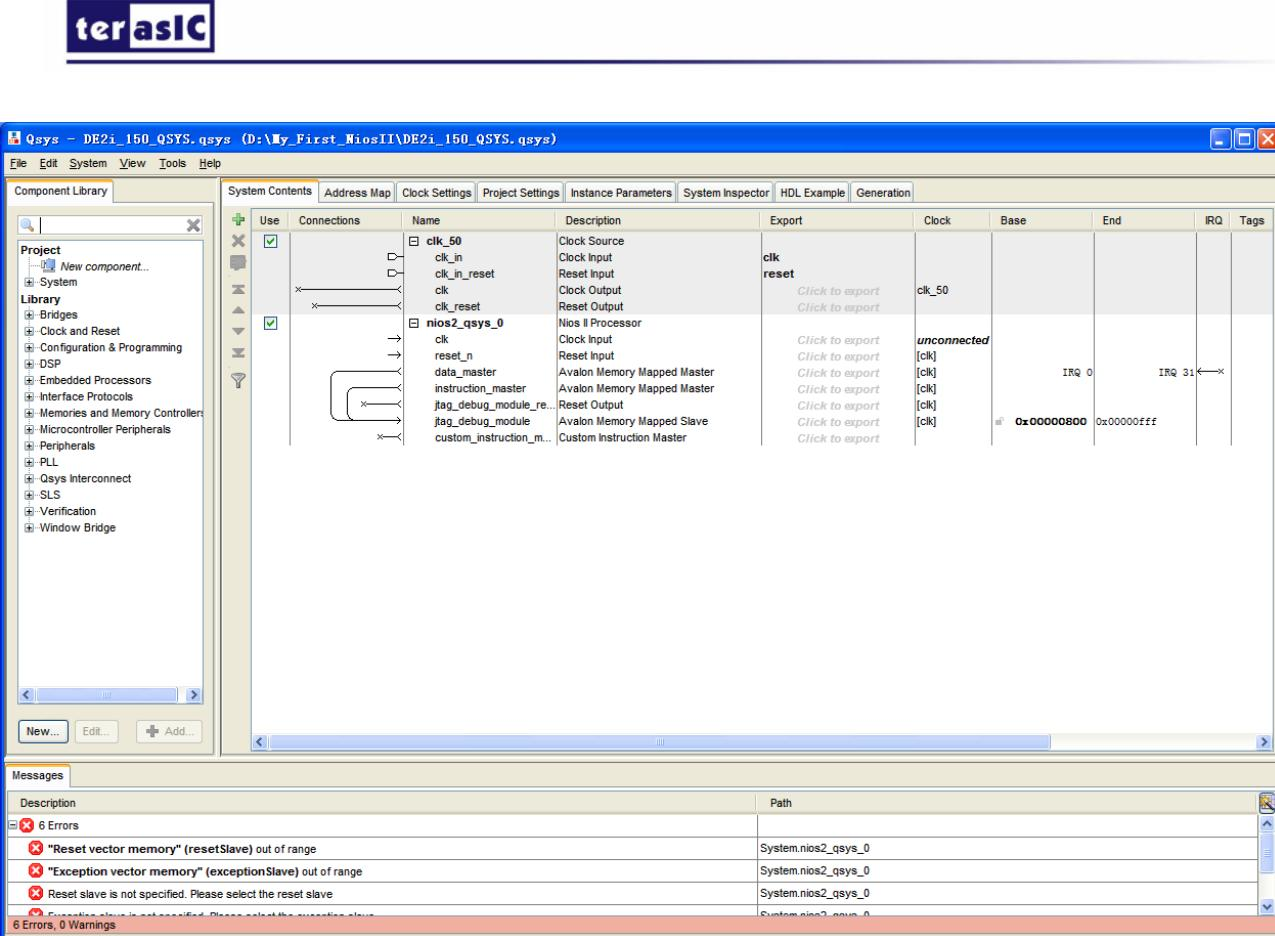

**Figure 1-15 Add Nios II Processor**
9. Choose Library > Embedded Processors > Nios II Processor to open wizard of adding cpu component. See Figure 1-15 and Figure 1-16.